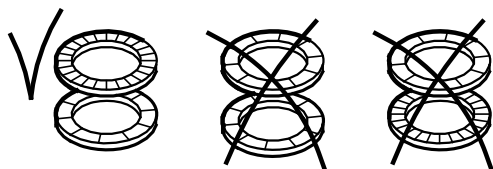

Fig. 21 Correct fitting of washers
9. Fit short spacing pipe (pos. 64a), impeller (pos. 49), gasket (pos. 139c) and chamber (pos. 4g).
10. Fit gasket (pos. 139b), spacing pipe (pos. 64), impeller (pos. 49) and chamber (pos. 4).
11. Continue the assembly until clamp (pos. 64c). For correct fitting of chambers and impellers, see section 8. *Order of assembly for chambers and impellers*.
12. Fit impeller (pos. 49), clamp (pos. 64c), washers (pos. 66) and nut (pos. 67). See fig. 21.